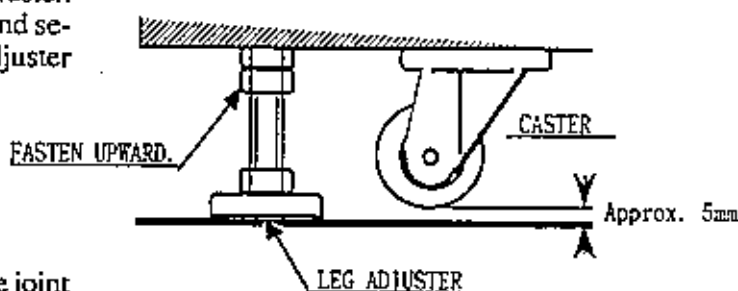

FIG. 6.6 LEG ADJUSTER
① Move the machine to the installation position. When installing the machine against or close to a wall, be sure to secure a passage space to enable the player to take a ride in the machine.
② Attach the joint plate for the 2 internal leg adjusters shown. First, cause the other 6 leg adjusters to come into contact with the floor. Make leg adjuster adjustments with a wrench in a manner to ensure the machine's position is level (Fig. 6.6).
③ After making adjustments, fasten the leg adjuster nut upward and secure the height of the leg adjuster (Fig. 6.6).
④ Insert the notch portions of the joint plate to the 2 leg adjusters.